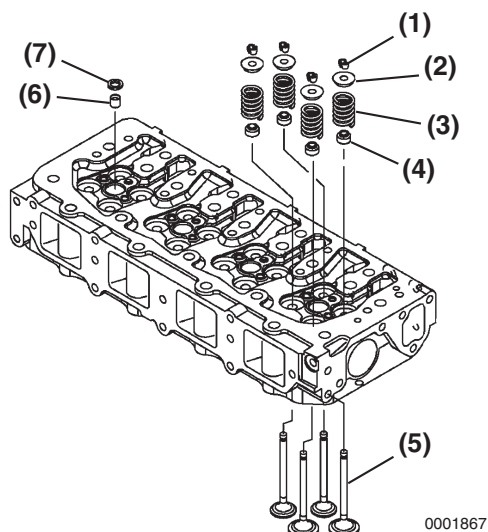

Figure 6-46
3. Remove the valve keepers (Figure 6-46, (1)).
5. Remove the spring retainer (Figure 6-46, (2)), valve spring (Figure 6-46, (3)).
7. Remove the injector nozzle protectors (Figure 6-46, (6)) and the seats (Figure 6-46, (7)).
8. Turn the cylinder head so the exhaust port side faces down. Remove the intake and exhaust valves (Figure 6-46, (5)) from the cylinder head.
9. Remove the valve stem seals (Figure 6-46, (4)).